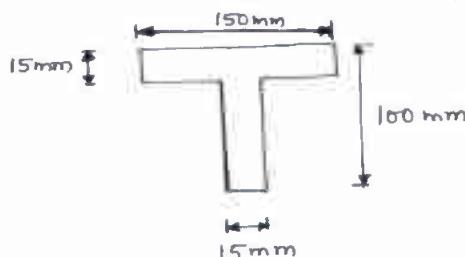

Fig. Q6(b)
- b. The cross section of a beam is a T section (Fig. Q6(b)) $150\text{mm} \times 100\text{mm} \times 15\text{mm}$ with 150mm horizontal. Find the maximum intensity of shear stress and sketch the shear stress distribution across the section if it has to resist a shear force of 90kN. (10 Marks)